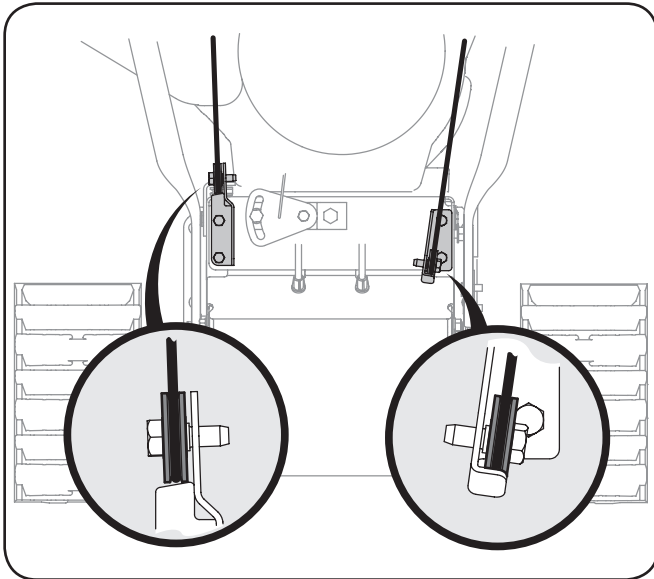

Figure 3-1
- Observe the lower rear area of the snow thrower to be sure both cables are aligned with roller guides. See Figure 3-1.